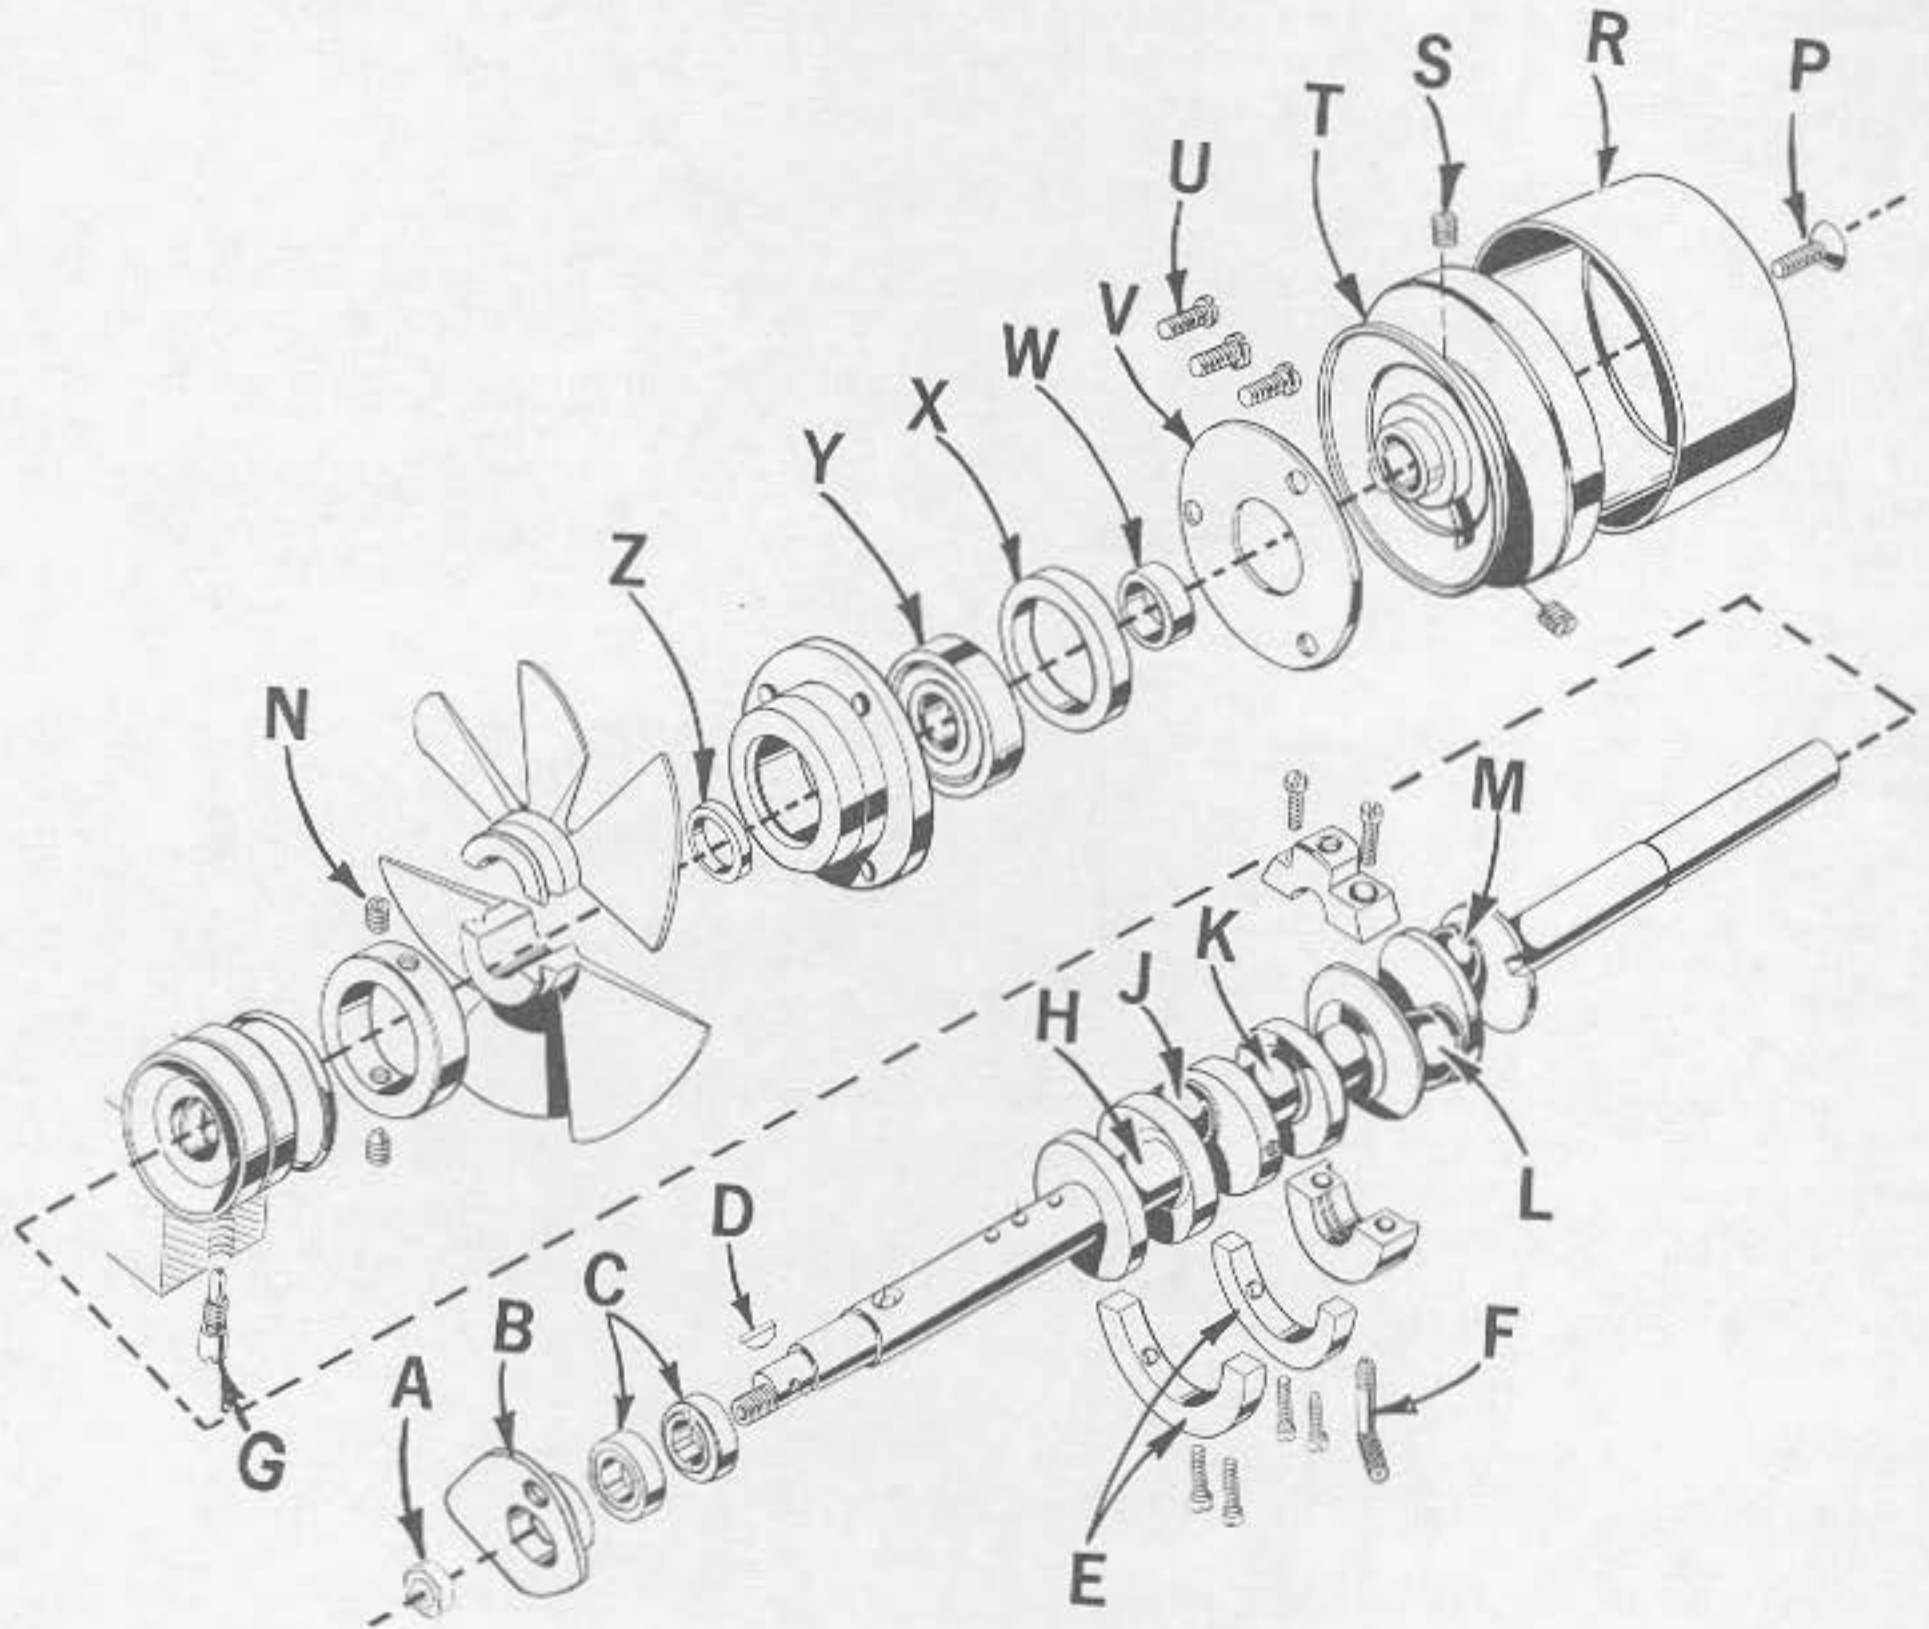
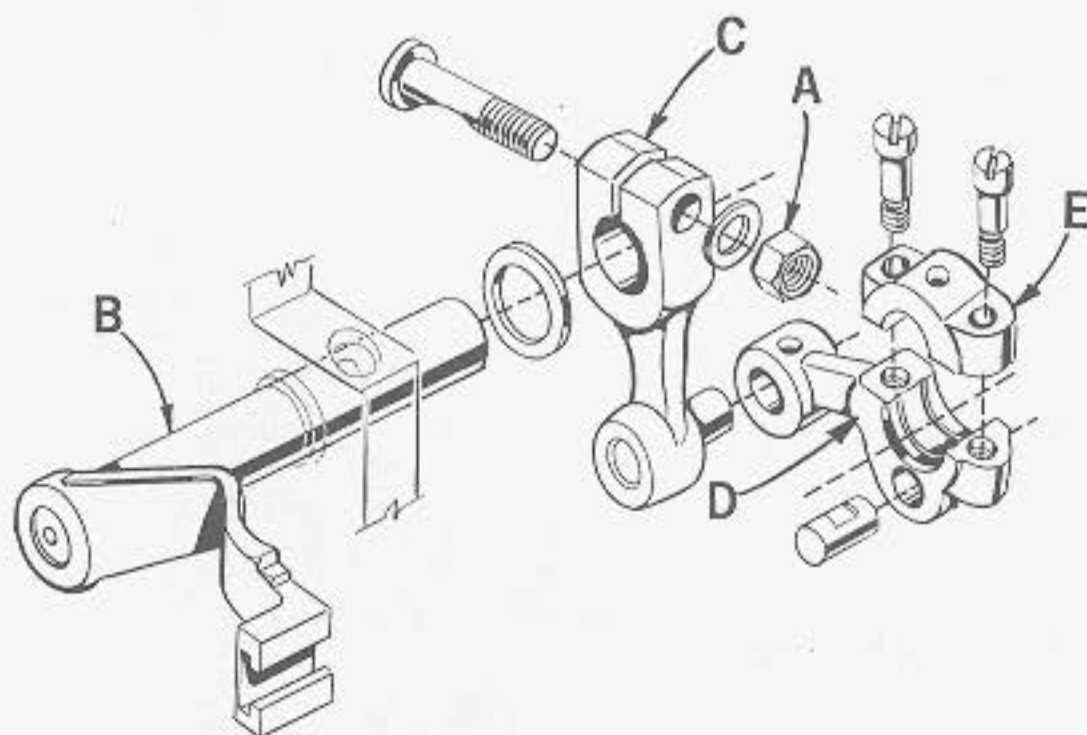

Fig. 24
Fig. 25
3. Remove nut (A, Fig. 24), 401 looper thread take-up (B) and eccentrics (C).
4. Remove key (D).
5. Remove two counterweights (E). Identify these counterweights so that they will be re-assembled in the proper places.
6. Remove oil tube (F) which holds crankshaft split bearing and oil pump, and the screw (G) which holds the inner right crankshaft bearing. They are accessible through bottom of bed casting.
14. Loosen clamp nut (A, Fig. 25) which holds the upper knife driving arm (B). Access to clamp nut is through top cover. Draw driving arm to the left until upper knife driving lever (C) and connecting rod (D) drop, allowing removal of bearing cap (E). This is at bearing point (K, Fig. 24) on crankshaft. Observe same precautions when reassembling cap as described in paragraph 7.
15. Loosen two screws (N) in fan collar; remove both halves of cooling fan.
16. Remove screw (P); take off pulley cap (R).
17. Loosen two screws (S); remove pulley (T).
18. Remove three screws (U); take off bearing retaining plate (V); also, spacer collars (W) and (X) may be removed at this time.
20. If necessary to replace ball bearing (Y), it can be pressed off shaft on an arbor press. In replacing the bearing it must be pressed on carefully until it seats against ground thrust washer (Z).